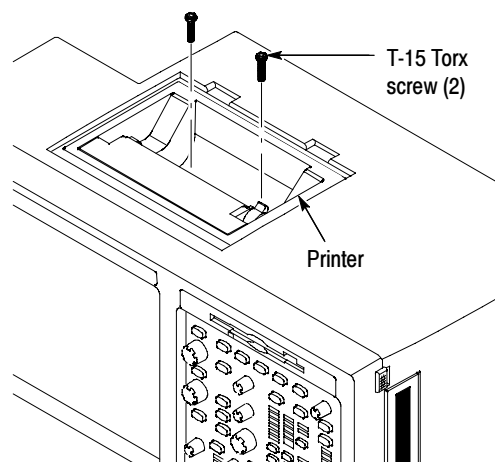

Figure 1: Printer screw mounting
- c. Remove the accessory tray or internal printer (two T-15 Torxdrive screws). See Figure 1.